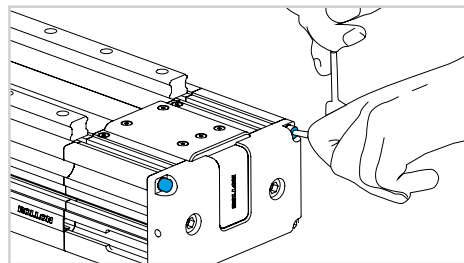

Fig. 11
- 12) Untighten the 4 screws on the idle head plate (see Fig.11).